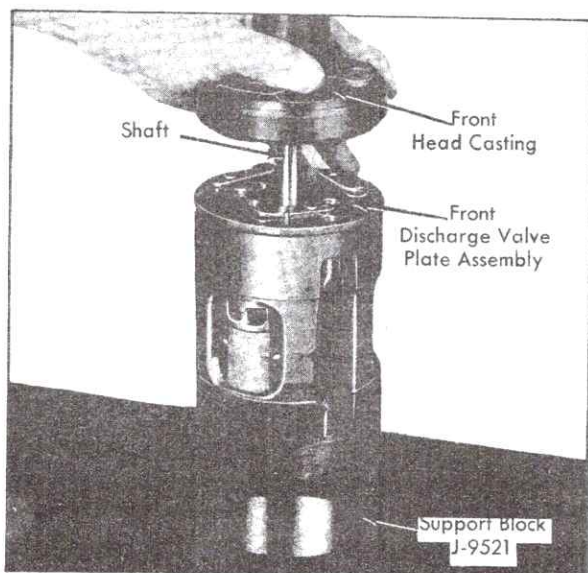

Fig. 1-66 Installing Front Head Casting
7. Determine exact position of front head casting in relation to dowel pins on internal mechanism. Mark position of dowel pins on sides of front head assembly and on sides of internal mechanism with a grease pencil. Carefully lower front head casting into position, Fig. 1-66, making certain that teflon sealing area around center bore of head assembly does not contact shaft as head assembly is lowered. Do not rotate head assembly to line up with dowel pins, as teflon sealing areas would contact reed retainers.